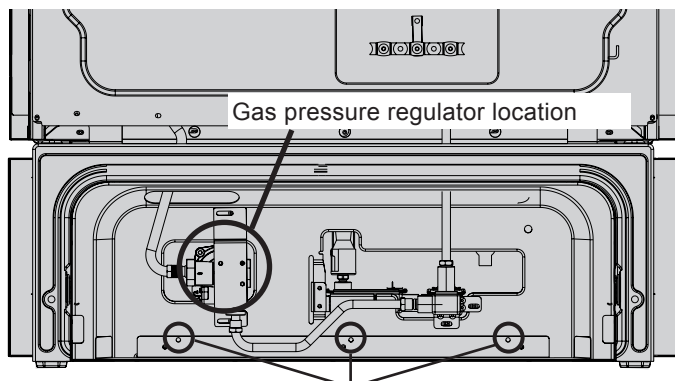

Figure 5b
- **If you are using a through the floor gas entry, remove the line protector shield** from the bottom of the unit to allow access for the pipe line (figure 5b).